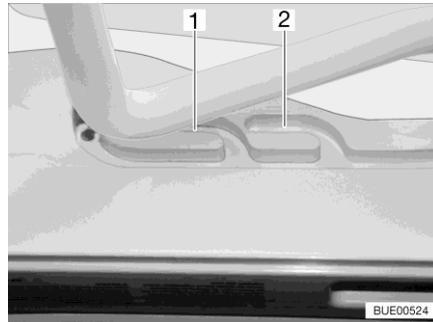
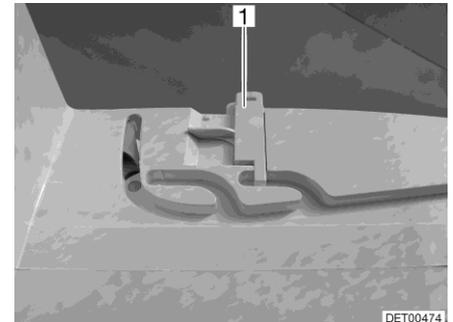

Fig. 89 Guide (ventilation position)
Fig. 90 Lock (ventilation position)
The Heki skylight can be put in two ventilation positions: Bad weather position (Fig. 89,1) and central position (Fig. 89,2). Depending on the model, the skylight can be locked in the central position with both left and right latches (Fig. 90,1) on the skylight frame.
- Push the bar slightly upwards and into the selected guide (Fig. 89,1 or 2) and lock if necessary.